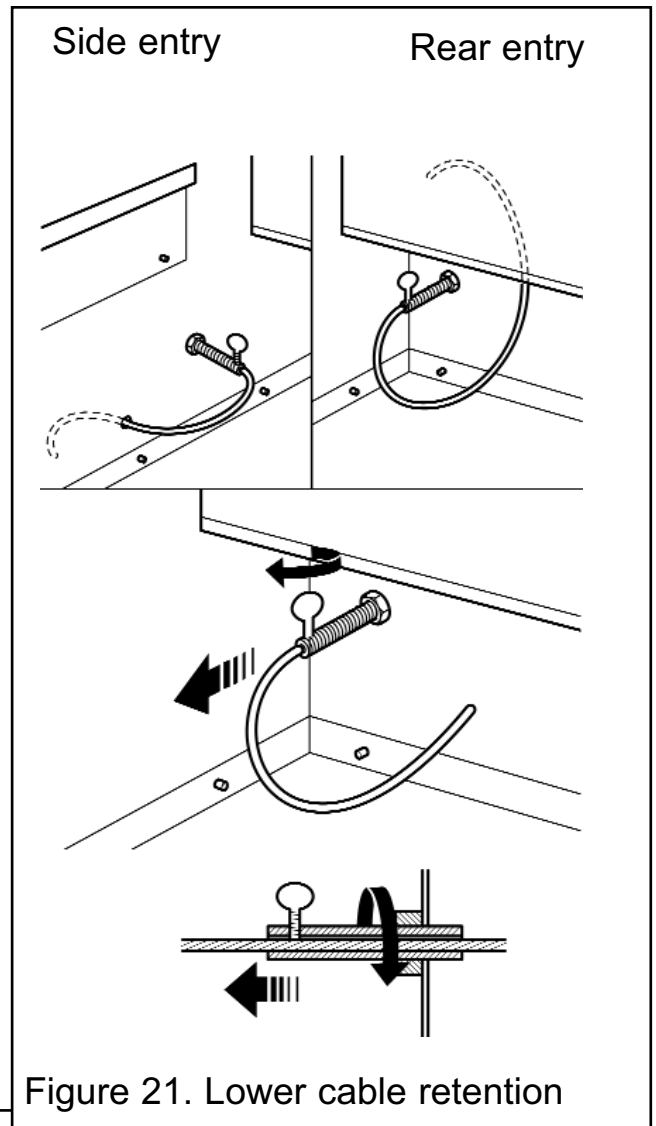

Figure 21. Lower cable retention
11. Pull each cable taut. Push the cable retainers hard up against the back panel. The end of the cable adjuster will pass into the hole. Tighten the screws in the retainers so that they clamp the cables in position. Apply tension to the cables by turning the hexagonal adjusters by hand (See figure 21).
14. Feed the free length of the cables into the gap between the inner and outer back panels so that they are available to allow easy removal and refitting of the appliance during subsequent service calls. **Do not cut off the free lengths of cable.** On precast flue installations feed the cables into the small holes at the base of the side panels (See figure 21).